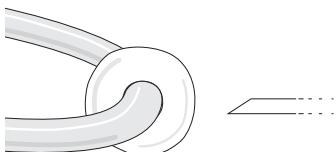

Fig. 20—Glass bead formed on filament
2. Place the beveled pipette in the pipette holder. With the pipette tip far from the heat, press the RUN button on and off, and adjust the heat until the glass bead becomes molten (Fig. 20). Observe how far the filament has expanded.